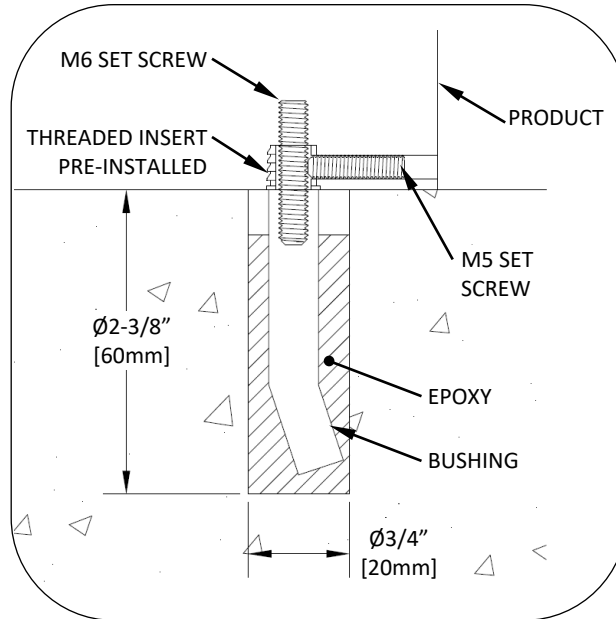

Fig. 2 - surface mount anchor detail
2. Position M6 set screw/bushing assembly in threaded insert on bottom of unit. Tighten side set screw to secure. See Fig. 2 and 2A.